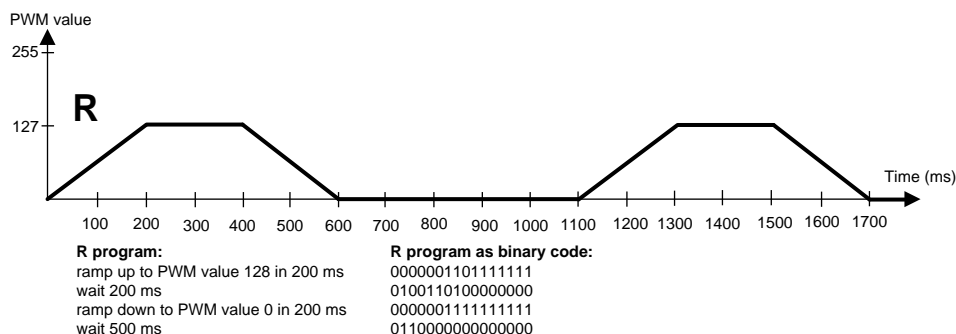

Figure 30. Sequence Diagram
2. Program Load to SRAM (see Figure 30):
LP5521 will generate 1100 ms long LED pattern which will be repeated infinitely. LED pattern is illustrated in Figure 30.